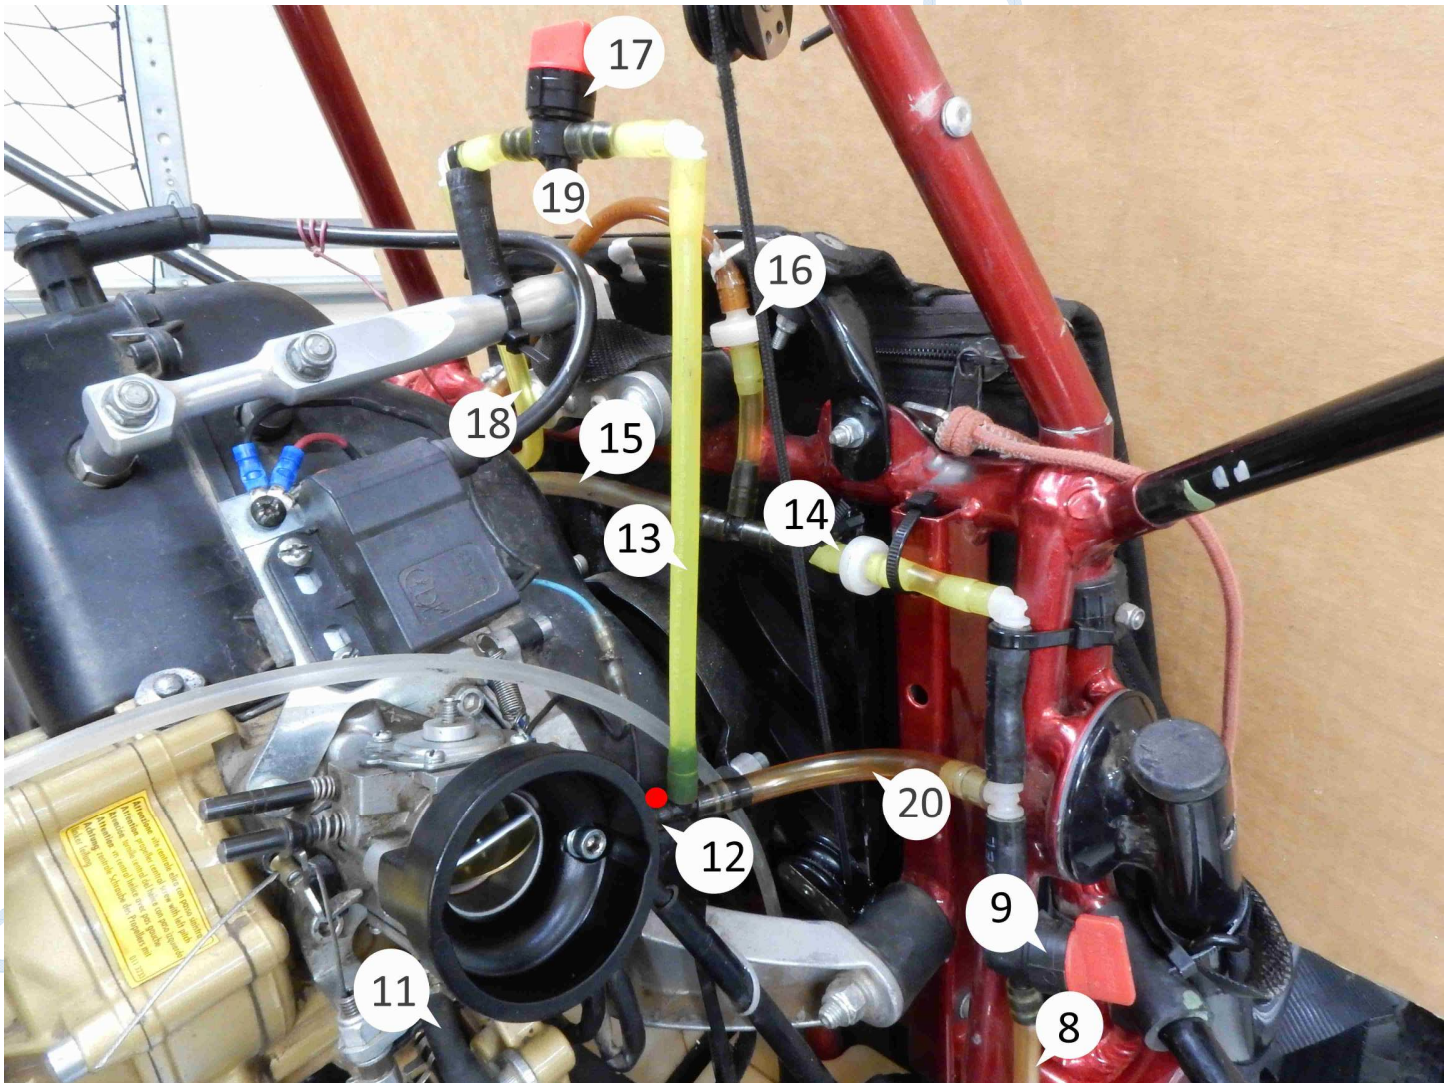
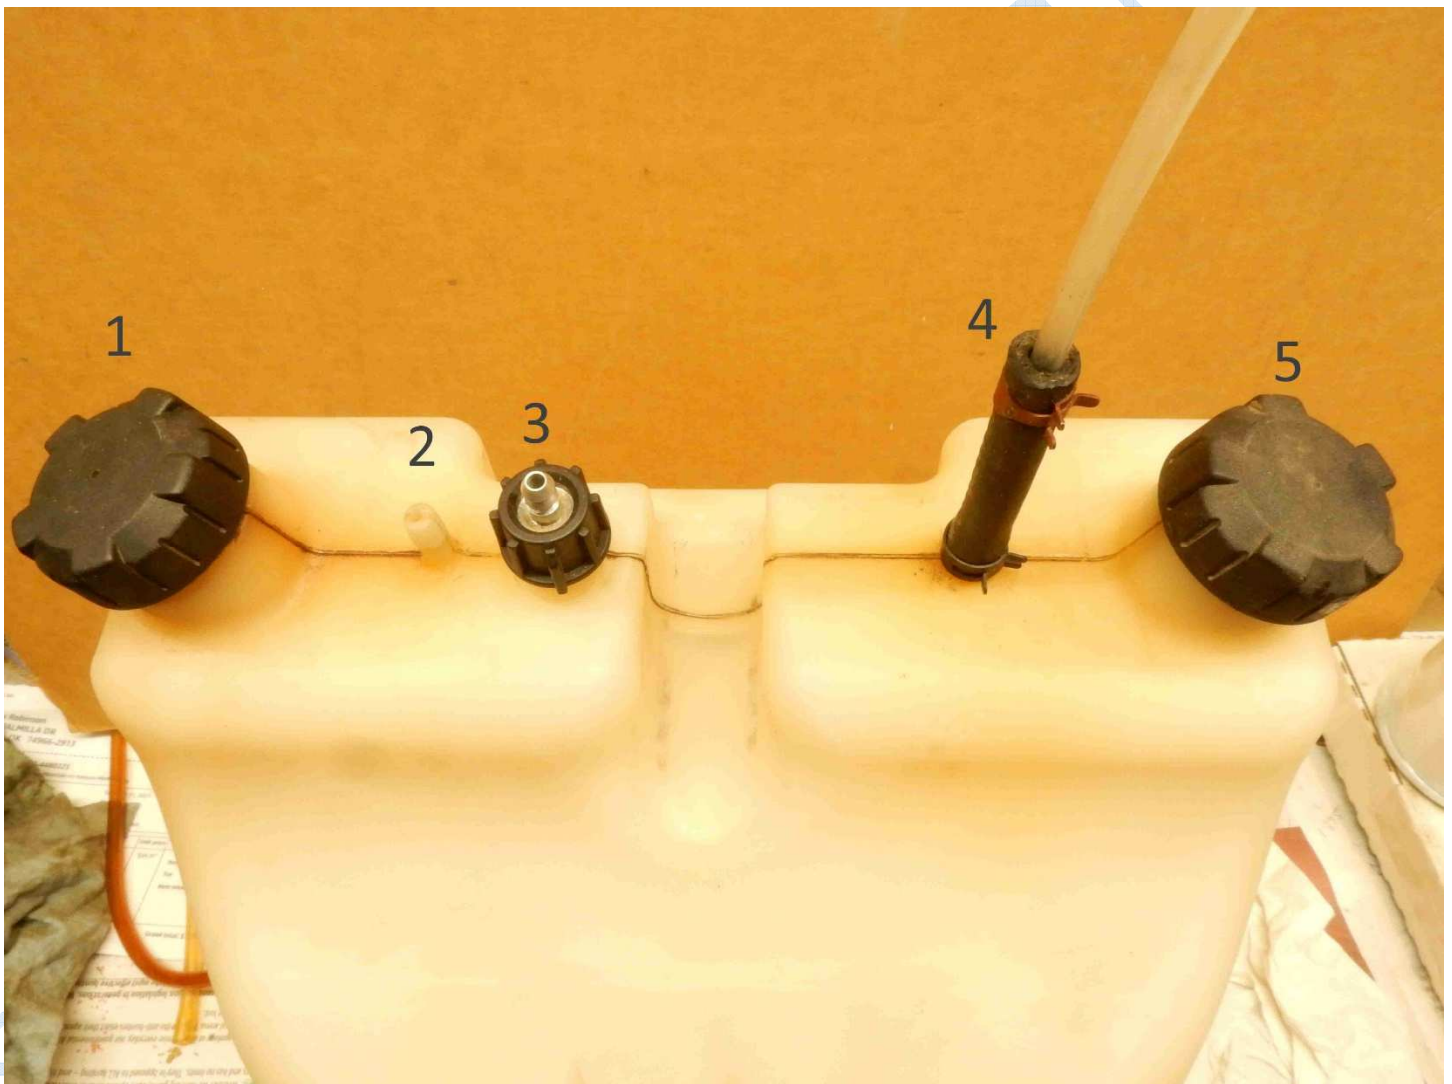

Figure 3 DSCN1336
Figure 6 DSCN1319num
All line/tubing used in the FSM is 3/16" (5mm) ID except the fuel overflow line #15 (figures 3 and 5) which is 1/4" (6mm) ID. Line/tubing may be supplied in one or more sections.
Parts ID – figure 3
Parts ID typical fuel tank – figure 6
1. Remove and drain the fuel tank Figure 6 above is a typical tank. #2 can be capped off or used for the manometer tube vent #18 (figures 3,4,5). #3 is the recommended fitting for the fuel overflow line #15 (figures 3,5) because it is barbed.
2. Priming Options If applicable, remove the existing inline primer bulb. To prime the system install a method to pressurize the fuel tank. The best and typical method is a long piece of HDPE tubing connected to the vent fitting #4 (figure 6). Use a piece of HD 1/4" (6mm) ID fuel line be used to attach the priming tube to the tank as shown in figure 6 above.
The existing brass double barbed fuel outlet fitting #3 (figure 6) may be used for the fuel overflow line. It is safer than using the formed HDPE fitting #2 that is next to it. If fitting #3 is used, remove the fuel line and the attached clunk.
11. The manometer tube – see figures 3,4,5 for details. Cut an 8" (20cm) piece of 3/16" (5mm) ID fuel line, insert a tee in the bottom end and insert a barbed ell into the top of the manometer tube. Using a Sharpie make a mark on the tube 5" (13cm) above the center of the tee. Connect the shutoff valve #17 to the barbed ell and another barbed ell fitting to the opposite side of the valve (see figures 3,4). Cut a section of 3/16" (5mm) fuel line and connect the last barbed ell fitting to an HDPE fitting on the top of the fuel tank.
Note: The VLCP's are marked with the direction of flow by colored dot (red or green) on the output side of the VLCP. (Note: some older versions of the VLCP can have the mark on either side.) It is recommended that the flow direction be verified by blowing on the end of the VLCP. The FSM will only function correctly if steps 13, 14, & 15 are followed exactly. Figure 3 on page 6 is the most important because it gives the correct placement of the VLCP's and fuel lines. **The orientation and placement of these parts cannot be changed!**
13. VLCP Red #14 (figure 3) must be installed horizontally and be the same height above the carburetor inlet as the ell fitting in step #12. The flow direction is **away** from the CPAV #9 and towards the Fuel overflow line #15 (the red dot should be towards the Fuel overflow line). Note: on older FSM versions the dot may be on either end.
14. Install the tee below VLCP Green #16 (figure 3) in a convenient location after VLCP Red. It, too, should also be 4-6" (12-15cm) higher than the carburetor inlet. It must be oriented as shown in figure 3 with the leg of the tee facing up (which will be connected to VLCP Green). The venturi will not work properly unless the fuel flow is STRAIGHT through the tee with the air from VLCP Green entering through the leg.
15. Install VLCP Green #16 (figure 3) above the tee, as shown. The VLCP must be in a vertical position. The flow direction is **down** (the green dot should be down). Note: on older FSM versions the dot may be on either end. Use a nylon zip tie to hold any part of the fuel lines connected to VLCP Green so that VLCP Red is the same height as the ell fitting. In figure 3, a white nylon zip tie holds the vent line #19 (figure 3) so that the VLCP's are in the correct orientation with respect to each other and to the ell fitting from the CPAV.
16. **Fuel overflow line and venturi** #15 (figures 3,5) is 1/4" (6mm) ID. This line must be 1/4" (6mm) ID or larger for the venturi to function properly and **not** cause back pressure in the system. It must be a dedicated line from the VLCP's to the fuel tank with no other fittings. I.e., it cannot be combined with other parts of the fuel system or have a tee in it. If the tank fitting has a smaller ID, for example, it must be enlarged or an additional fitting added to the top of the fuel tank. (Contact us for more info if another fitting needs to be added to the tank. Leakproof fittings are available and are installed in the same manner as the fuel tank fitting at the bottom of the tank.)
This line begins at the same height as the ell fitting in step #15 and continues directly to the original fuel outlet fitting #3 (figure 6) which is the best attachment point. It may be attached to the formed HDPE fitting #2 (figure 6) in the top of the tank but this fitting is not as secure as a brass barbed fitting. The line cannot contain any loops and must slope down to the tank. The line in test engines is about 18" (47cm). If the length is longer, the fuel pressure at the carburetor inlet will be higher. The line should not be near any hot parts of the engine. *Use a 10mm clamp to secure the line to the tank fitting.* If this line becomes disconnected while the engine is running, gasoline will stream out and cause a hazard. When you make this connection, pull on the installed line to be **certain** that it will not come loose. Typically, the fittings on paramotor fuel tanks are single barbed and/or flimsy. Extreme care must be exercised when connecting this line to the tank. Contact us if you are unsure about the installation of this CRITICAL line.